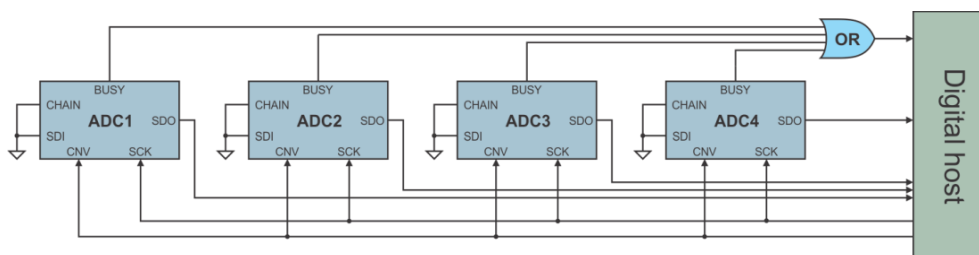

Figure 11: Normal mode block diagram
- *Normal mode* (see **Figure 11**) enables simultaneous reading of the ADC output data in parallel from all the four ADCs.